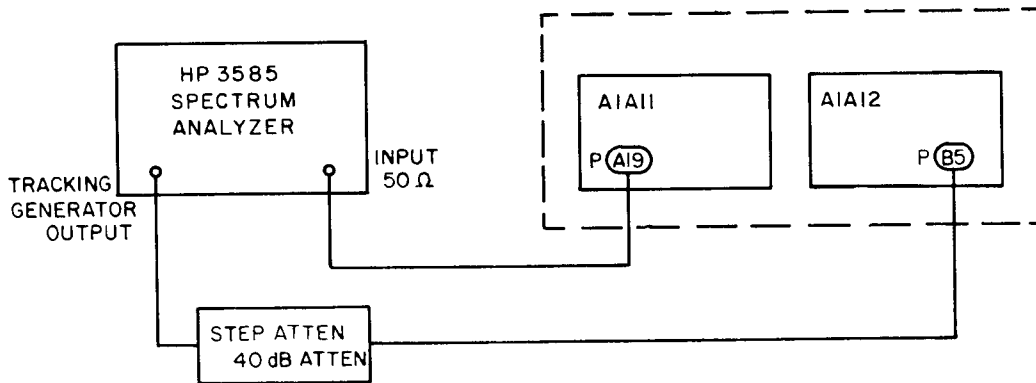

Figure 4-21. AM/FM Demodulator Alignment, Equipment Connections
- 2) Connect the test equipment as illustrated in **Figure 4-21** and ensure the green jumper wire on TC30059 is connected to pin 3 and not to pin 4. Turn the pot on TC30059 fully clockwise prior to applying power to the receiver.